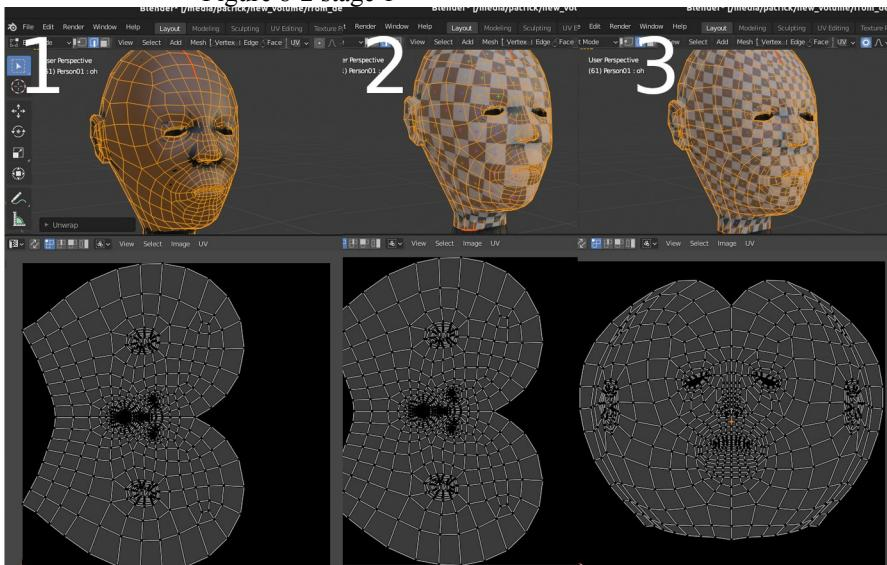

Figure 8-2 Unwrapped Head
Once the materials are set up ready you need to create the UV maps for the textures to use. The first job is to draw seams where you want the skin to be “peeled” back. The standard locations are round the neck, up the back of the head, down the back of the body, down the back of each arm and down the inside of each leg. The eyes can be sliced around their circumference. See Figure 8-2 for the seams and unwrapping on the head.
8. Change the bottom screen area to UV Editor then in the 3D Viewport select **UV ▶ Unwrap**. You should get something like Figure 8-2 stage 1
Grid and click **OK**. Your head should now look like Figure 8-2 stage 2.
10. Change back to the UV Editor. Select all the vertices by pressing A while the mouse is over the UV Editor, then rotate them by -90 as in the lower half of Figure 8-2 stage 3.
11. You need to keep the squares as regular as possible but make them smaller in the middle of the face. Toggle proportional editing on with linear falloff, then select a vertex on the tip of the nose in the UV Editor. Scale the vertices up, adjusting the radius of the proportional effect so no overlaps or serious distortion occurs. You can see my attempt in Figure 8-2 stage 3.